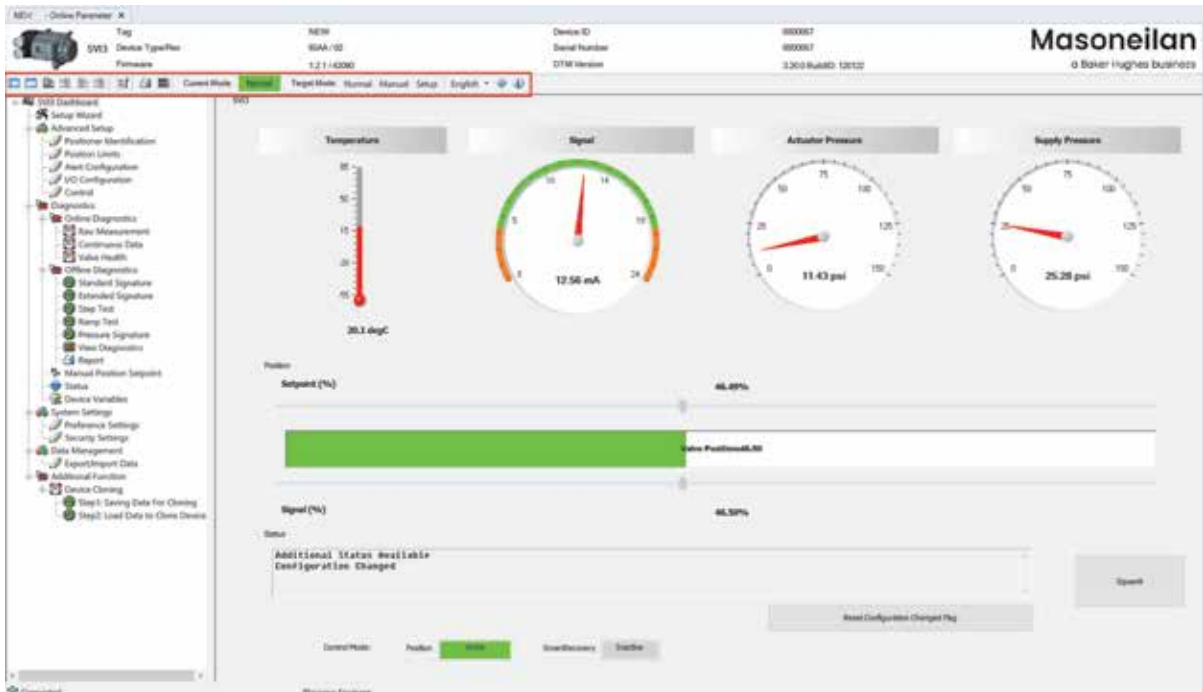

Figure 22 SVI3 Advanced DTM Main Screen
This section describes the SVI3 Advanced DTM main screen (*SVI3 Dashboard* screen) and how to accomplish general SVI3 Advanced DTM tasks. After you have successfully launched and logged into the SVI3 Advanced DTM Figure 22 appears.
Use this area located at the top of all *SVI3 Advanced DTM* screens (Figure 22 - ①) to view the current status of the SVI3 and to change the operating mode.